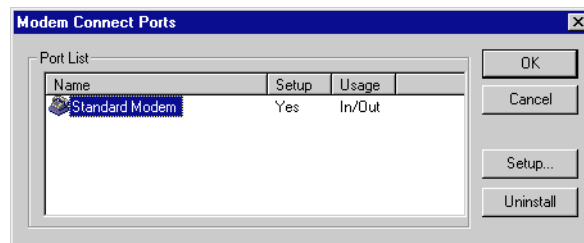

Figure 4 - Modem Connect Ports Dialog Box
3. The Modem Connect Ports dialog box (*Figure 4*) should list all modems that have been properly installed on your computer and recognized by Windows. Select the modem UltraSite will use for dialing and receiving, and click the Setup button.